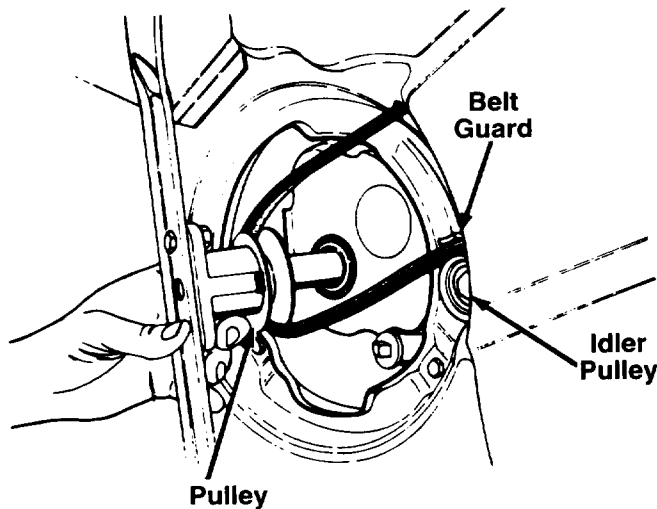

FIGURE 15.
7. Loosen (do not remove) the bolt which secures the idler pulley so you can remove the belt from between the idler pulley and the belt guard on the idler pulley bracket. See figure 15.
10. Reassemble new belt, following instructions in reverse order. Belt must be inside the belt keeper which is part of the pulley half (ref. 171 on page 12).
**NOTE:** When reassembling the transmission belt cover, be certain the belt guard on the transmission cover is approximately 1/8" away from the belt (see ref. 45 on page 14). Make certain to tighten all nuts and bolts securely. If plastic was placed under the gas cap, be certain to remove it.